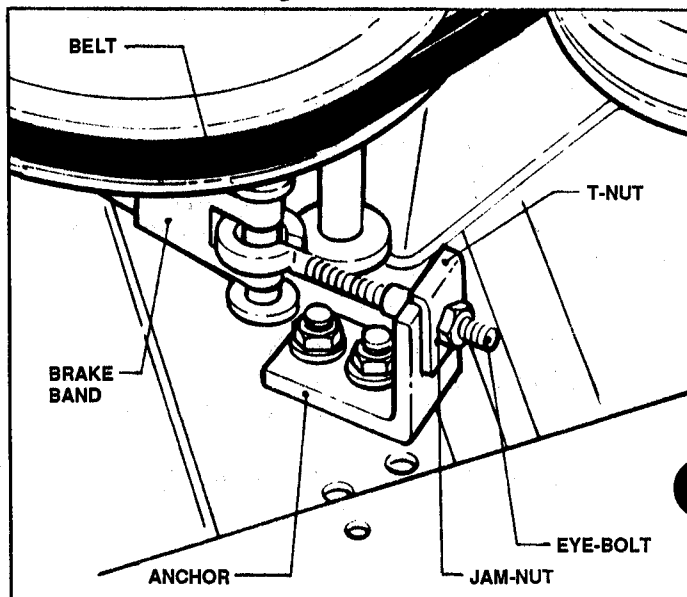

FIGURE 3.4
- 2. Hold BLADE CONTROL LEVER to rear and loosen jam-nut on end of eyebolt. See Figure 3.4.